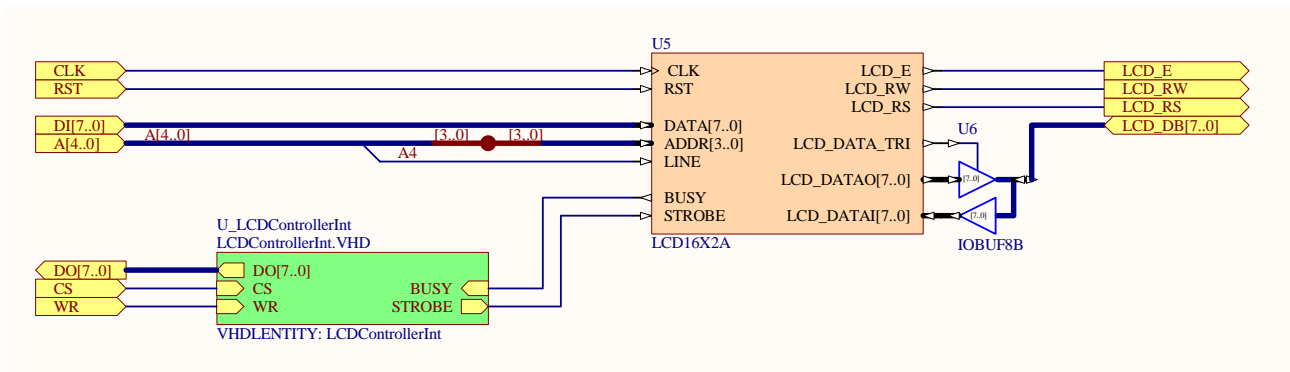

Figure 1: The LCD interface schematic.
*Copy your solution from Tutorial 4 into another directory to complete the Tutorial 5 exercise. Change the design by moving the LCD interface onto another schematic. This schematic should look like that shown in Figure 1. The VHDL code for the LCD interface also has to be changed to use a chip select input rather than decoding the address lines. The **BUSY** signal can also be connected directly to **DO0** without the need to use the **MEMRD** signal (done in the VHDL code).*